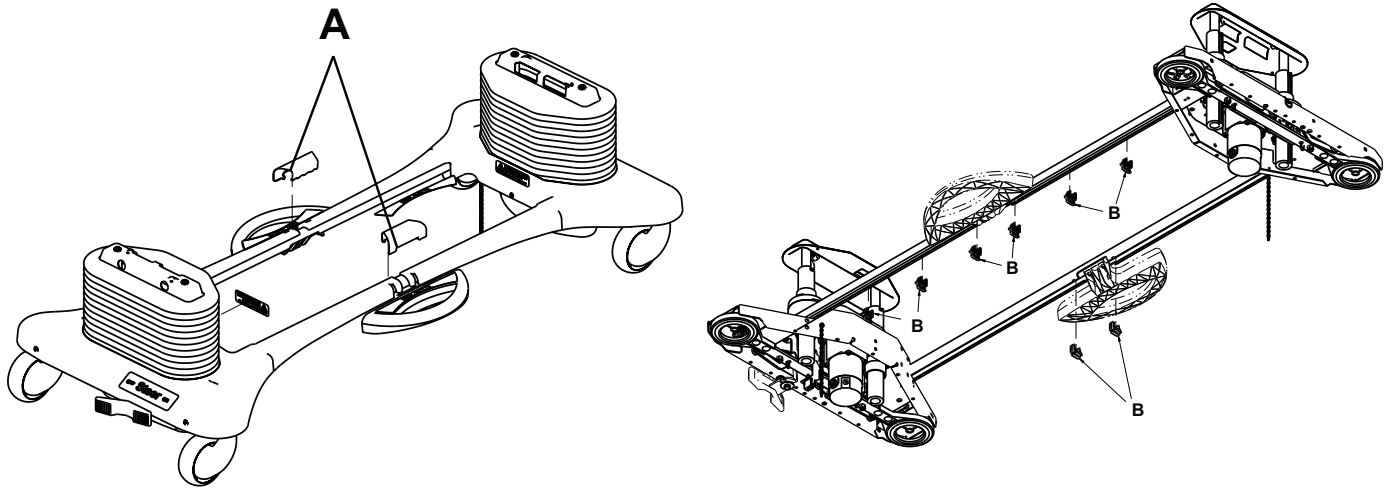

Figure 7 – Uni-pan removal
2. Remove the two uni-pan cover clips (A) that secure the uni-pans together (Figure 7).